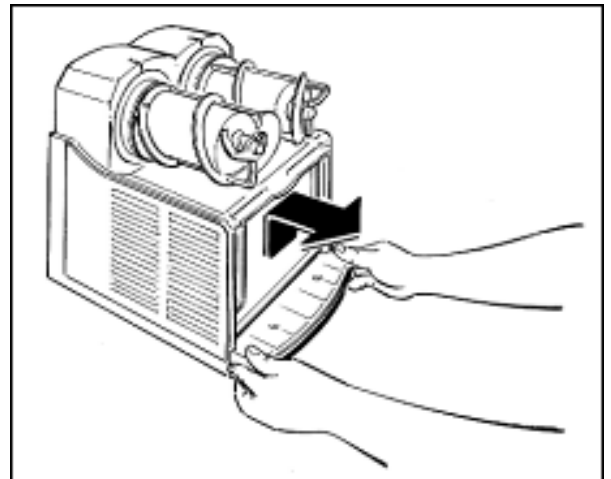

Fig. 39
- Remove the drip tray by moving it upward and pulling it outward (Fig. 39).